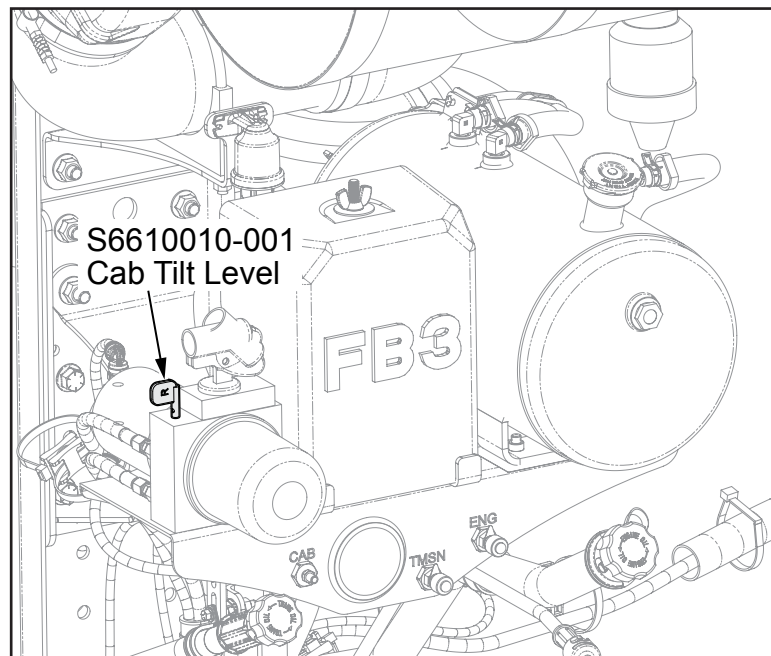

Figure 9
11. Install the 1" S6610010-001 Cab Tilt Lever (see Figure 9).